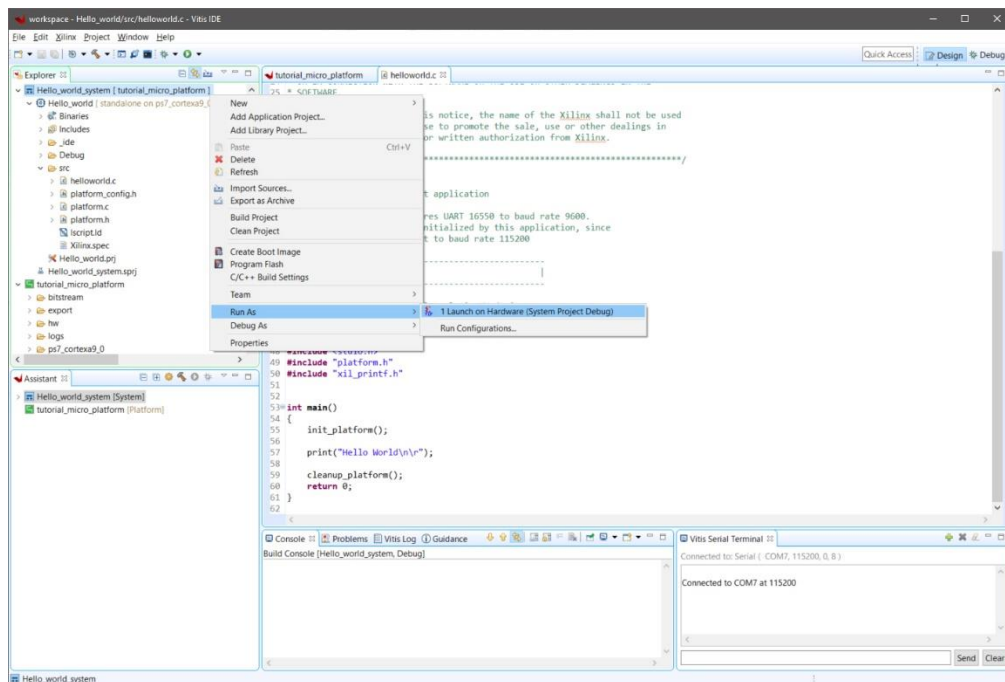

Figure 35
9. Right click and select **Run as → 1 Launch on Hardware (System Project Debug)** (Figure 35)